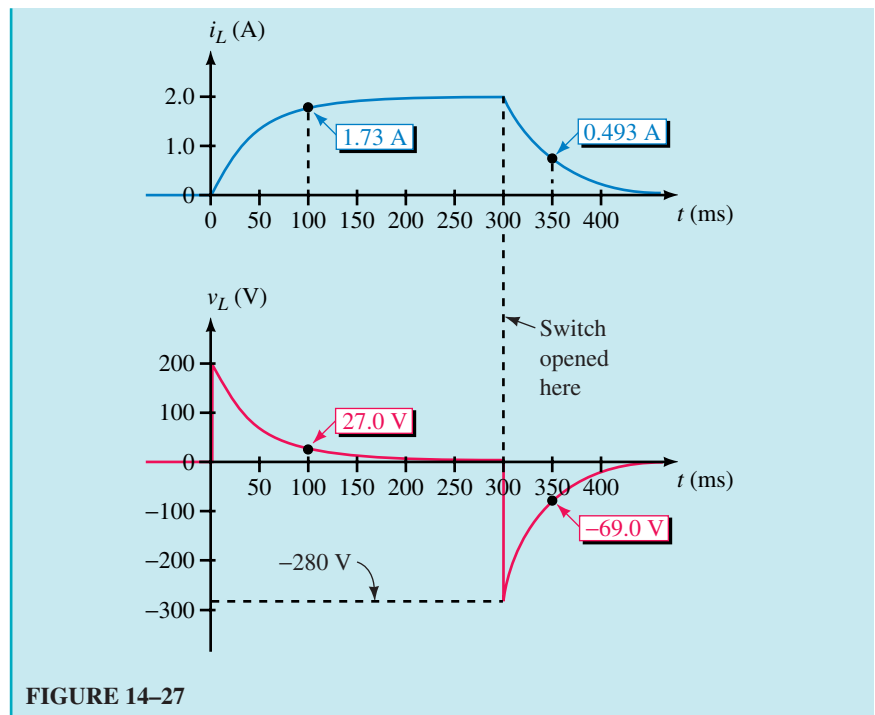
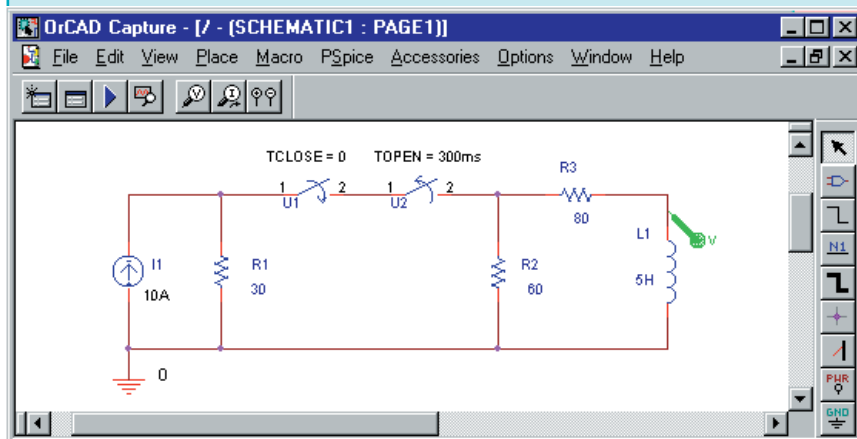

FIGURE 14-27
FIGURE 14-35 Simulating the circuit of Example 14-10. Two switches are used to model the closing and opening of the switch of Figure 14-23.
- d. The above points are plotted on the waveforms of Figure 14-27.
Solution PSpice doesn't have a switch that both opens and closes. However, you can simulate such a switch by using two switches as in Figure 14-35. Begin by creating the circuit on the screen using IDC for the current source. Now double click TOPEN of switch U2 and set it to 300ms, then double click the inductor symbol and set IC to 0A. Click the New Profile icon
and name the file fig14-35. In the Simulation Settings box, select transient analysis then type in a value of 0.5 for TSTOP. Run the simulation, create a second Y-axis, then add the current trace I(L1). You should now have the curves of Figure 14-36 on the screen. (Compare to Figure 14-27.) Using the cursor, read values at $t = 100$ ms and 350 ms. You should get approximately 27 V and 1.73 mA at $t = 100$ ms and -69 V and 490 mA at $t = 350$ ms. Note how well these agree with the results of Example 14-10.